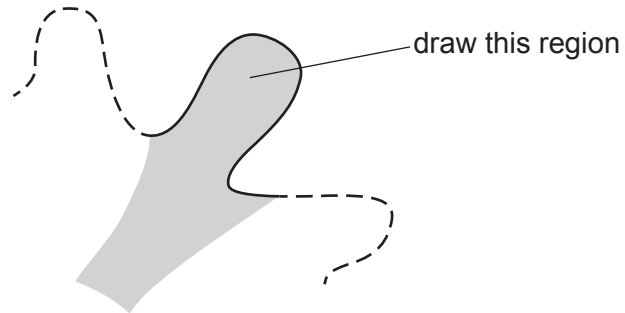

Fig. 2.1
- (a) (i) Draw a large plan diagram of the region of the stem on **N1** indicated by the shaded area in Fig. 2.1. Use a sharp pencil.